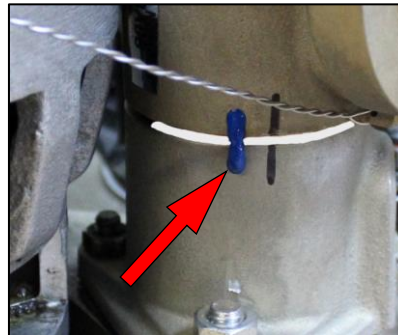

Figure 15
16. Apply Tamper Seal across the joint of the sleeve and oil pump housing as shown in Figure 15.